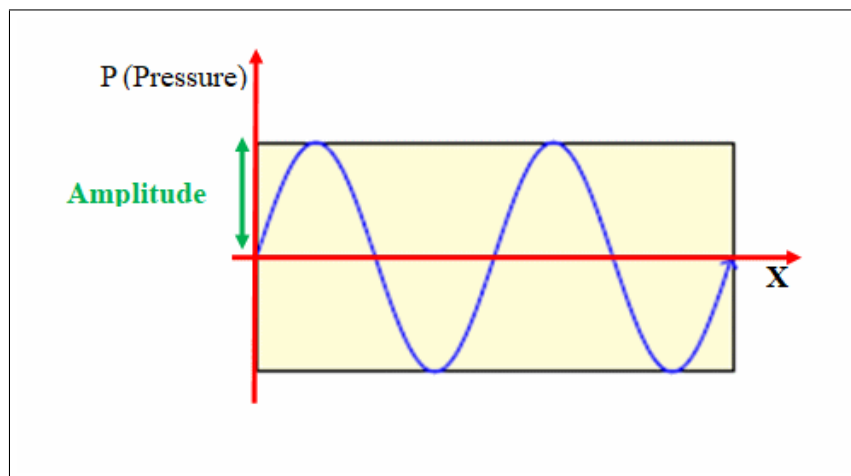

Figure 6.6: Amplitude.
* The **amplitude** is the peak pressure (Figure 6.6).